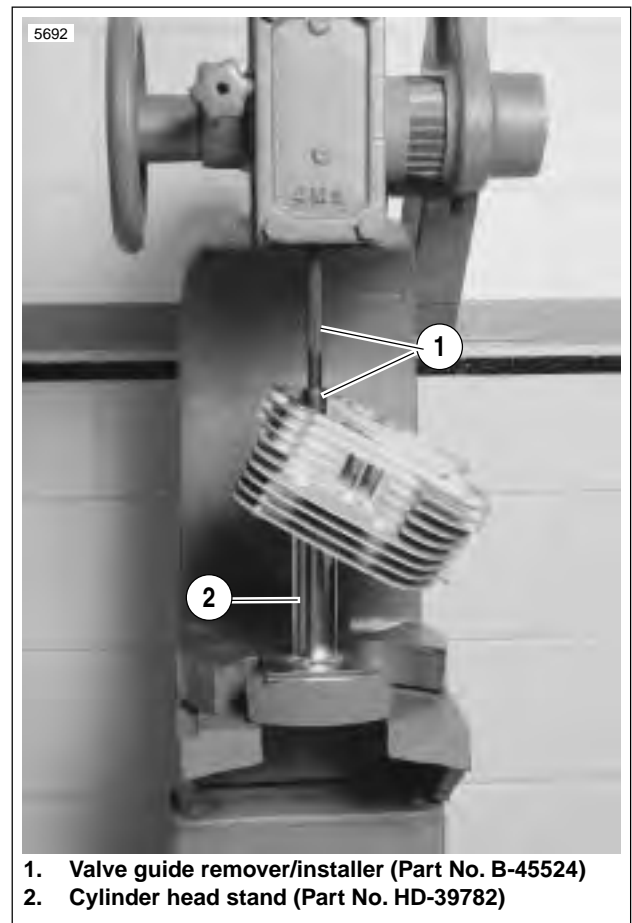

Figure 3-76. Installing Shoulderless Valve Guide
- See Figure 3-76. Install shoulderless guides using VALVE GUIDE REMOVER/INSTALLER TOOL (Part No. B-45524). Press or drive guide until the tool touches the machined surface surrounding the guide. At this point, the correct guide height has been reached.